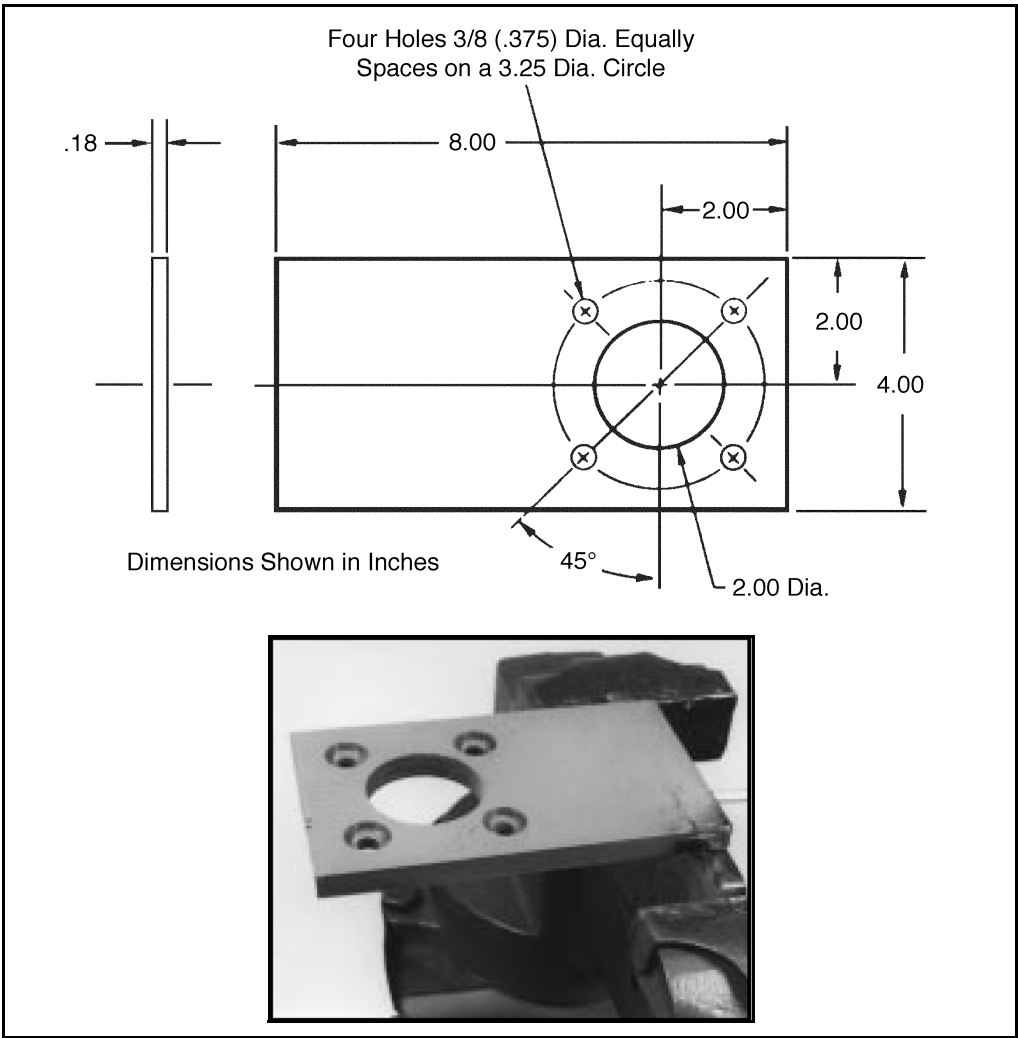

Figure 6A-1. Steering Valve Service Fixture
Other service items:	6 pieces 0.007 in (0.18 mm) shim stock 0.5 in (13 mm) wide and 1.5 in (38 mm) long Portable hydraulic filtering unit Vacuum pump Service fixture for Power Steering Unit (Figure 6A-1).
1. Place the power steering service fixture (Figure 6A-1) securely in a vise.